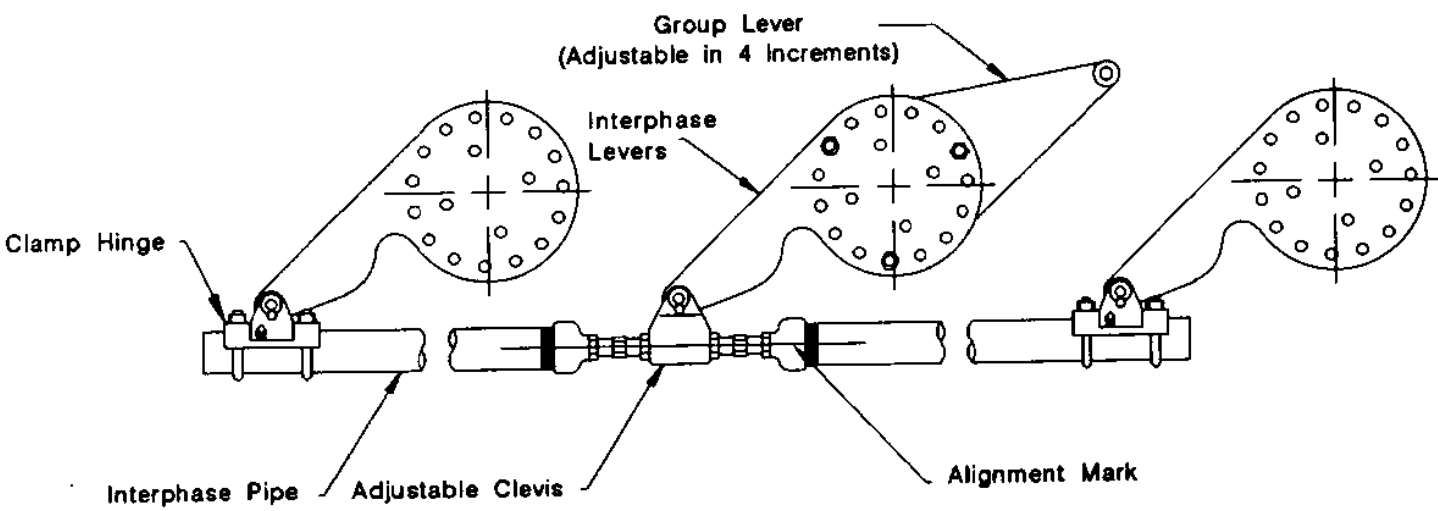

Figure 24 -- Operating Control Levers
4. Reassemble the interphase operating pipe to the adjustable clevis by lining up the match marks. While supporting the ends of this pipe assembly, pin the clevis to the center pole operating lever first. Outside poles may have to be rotated slightly to accommodate pin insertion. Refer to Figure 24 for details.